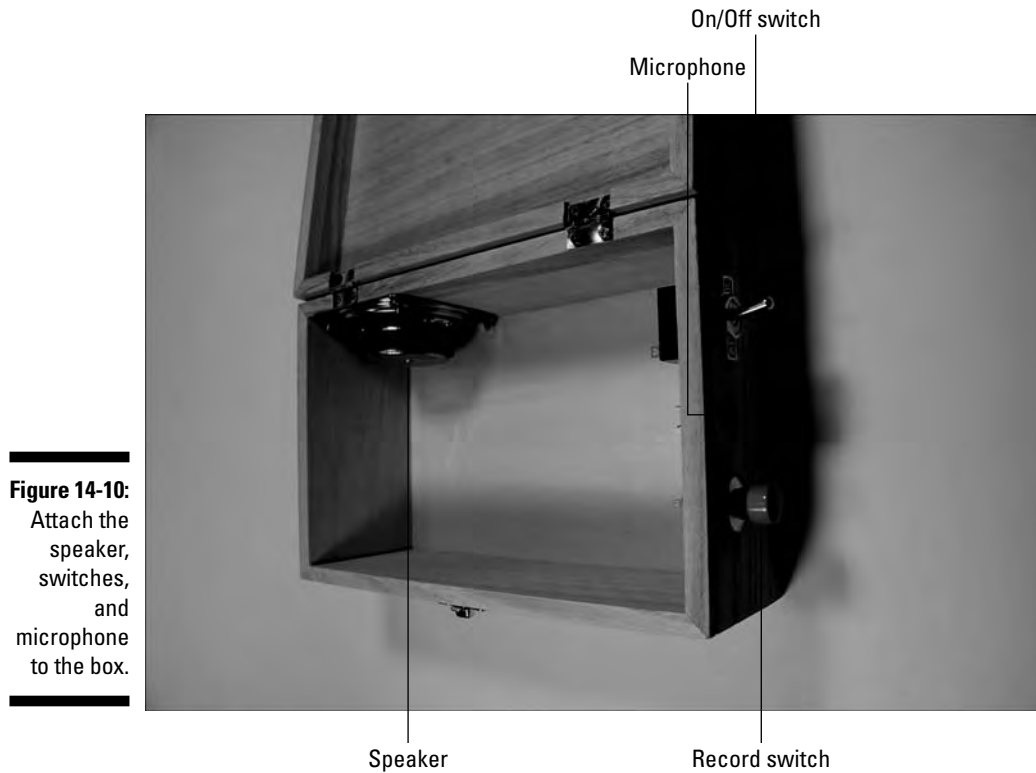

Figure 14-10:
7. Attach the speaker, switches, and microphone to the box, as shown in Figure 14-10.